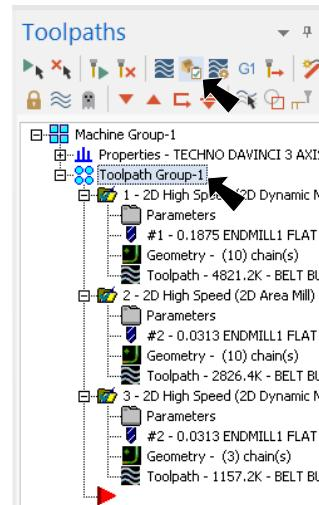

Fig. 70
Step 3. Click **Toolpath Group-1** in the Toolpaths Manager to select **all 3 toolpaths**, Fig. 70.
Step 4. Click **Verify**  in the Toolpaths Manager, Fig. 70.
Step 5. Click **Play**  (R) in VCR bar along bottom of the window.